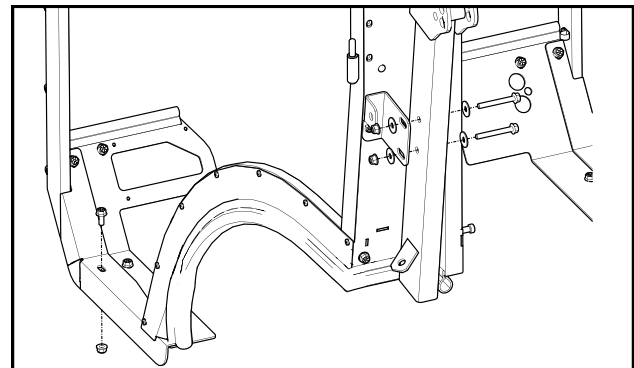

Fig. 7.2 (B2401: side frames onto tractor )
**7.2 (B2401)** With assistance, place the left side frame on top of the left floorboard mount and the vehicle's left fender. Fasten the side frame to the floorboard mount. Attach the lower ROPS mount to the ROPS with 2-1/2" bolts from the inside of the ROPS, with fender washers on both sides. Repeat step for the right side frame. See fig. 7.2.